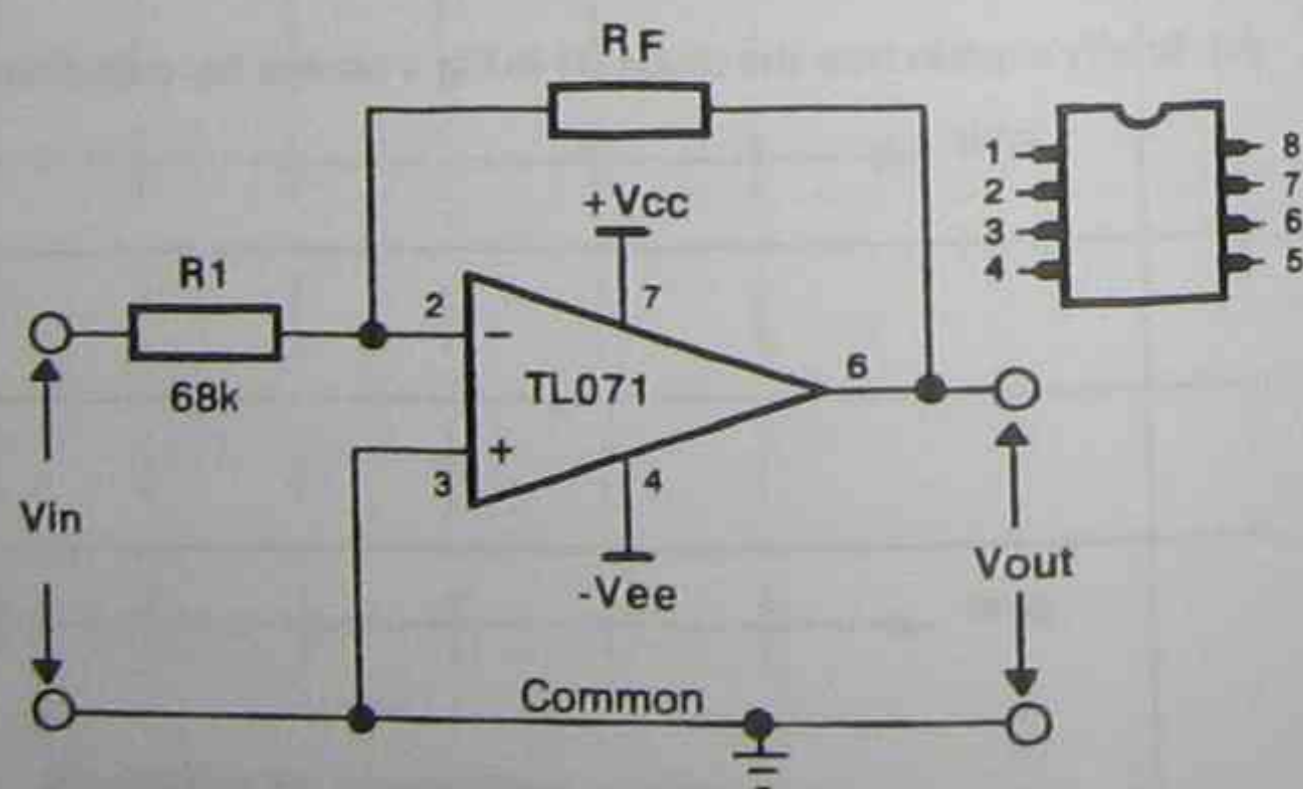

Fig.1: The inverting amplifier
- For Fig.1, calculate the nearest preferred value of R_F that will achieve a gain of 8 for the circuit.
- Using the calculated value of R_F , construct the circuit of Fig.1 on a prototyping board. The circuit is powered with a dual polarity power supply, either $\pm 12V$ or $\pm 15V$.